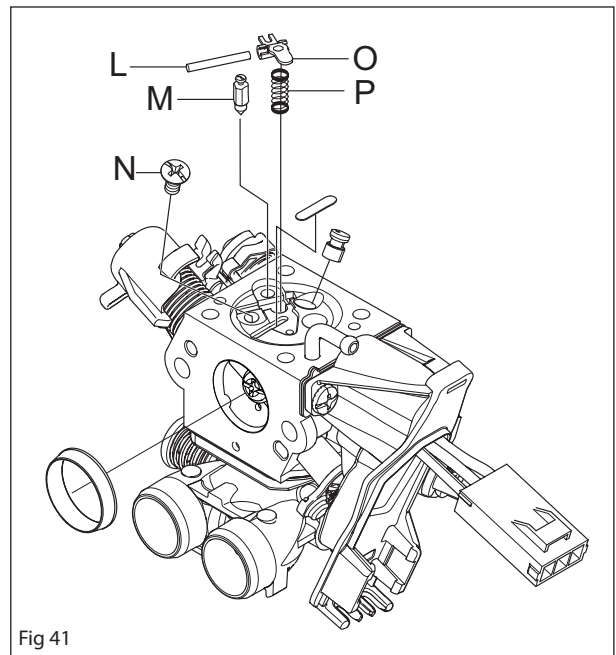

Fig 41
5. Assemble needle valve M with lever arm O, shaft L and spring P, and tighten screw N. (Fit the expansion washer). See figure 41.